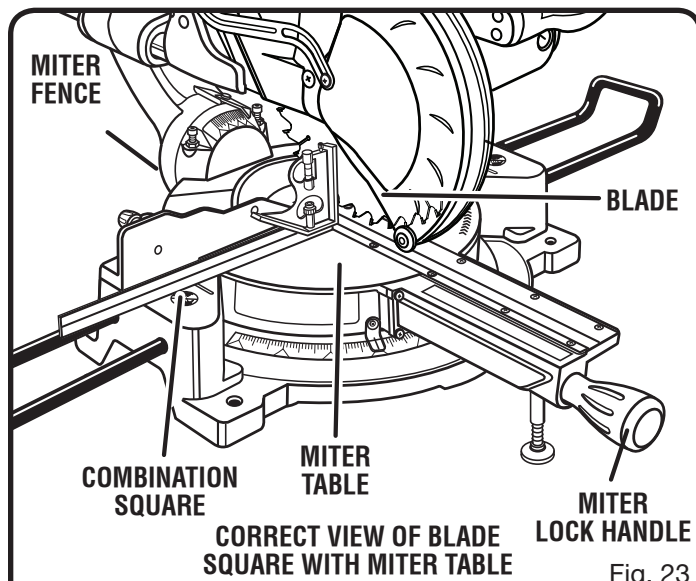

Fig. 23
- The edge of the square and the saw blade should be parallel as shown in figure 23.